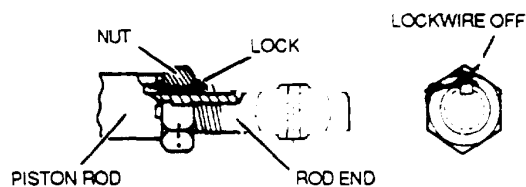

Figure 2-82. Rod End Safetying (Key Type NAS 559)
h. Rod End Safetying. Lockwire rod end (key type NAS559), as shown in figure 2-82.